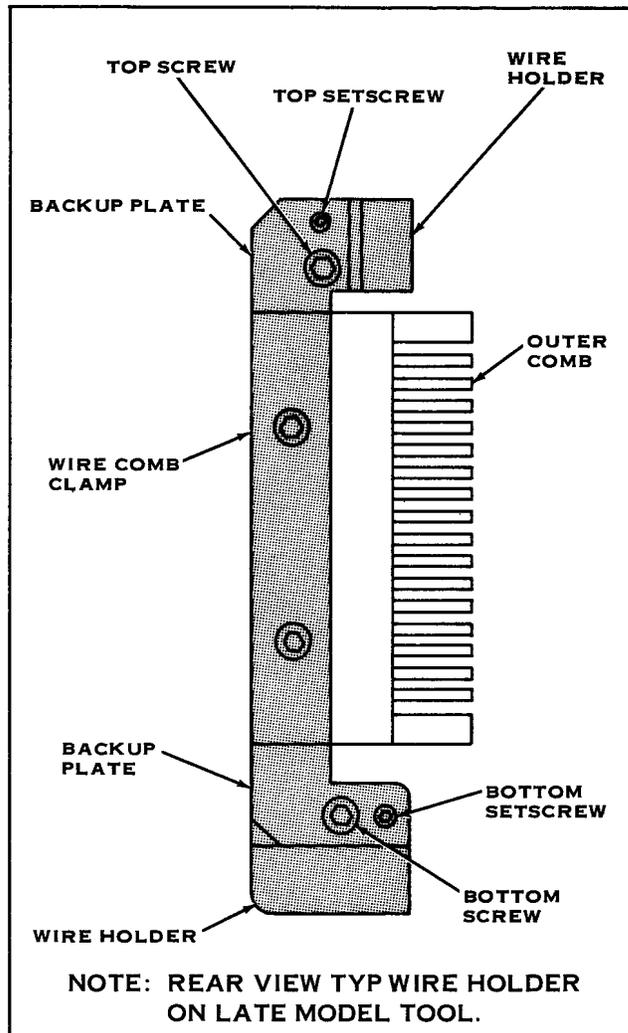

Fig. 7
7. Loosen top and bottom screws securing backup plate to wire holder, as shown in Fig. 7. This will give more clearance between backup plate and shear plate.